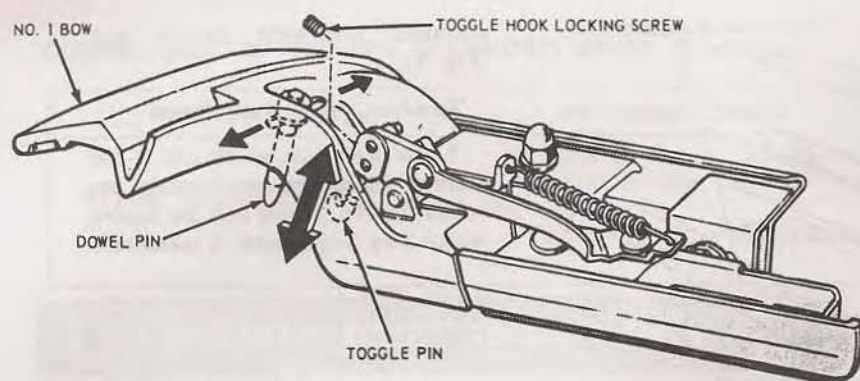

FIG. 7—Toggle Clamp Hook and Dowel Adjustment
adequate windshield header seal (Fig. 7).
2. Release the toggle clamps, loosen the locking screw (Fig. 7), and thread the toggle hook in or out until adequate sealing pressure is applied at the header weatherstrip. Tighten the toggle clamp locking screw after adjustment. Excessive tightening is detrimental to a good seal.
3. The No. 1 bow dowel pins are adjustable inboard and outboard to obtain proper relationship of the No. 1 bow to the windshield header (Fig. 7). Loosen the dowel pin lock nut and adjust the dowel pin inboard or outboard as necessary (Fig. 7). Tighten the lock nut.